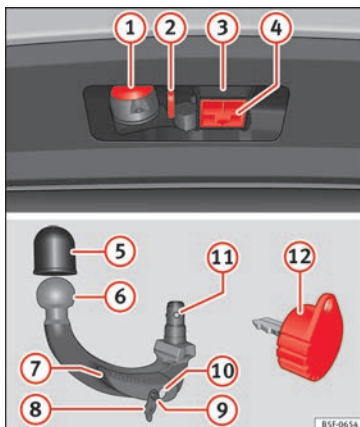

Fig. 232 Towing bracket device support / detachable ball joint / key.
Key to » Fig. 232
- Remove the hook housing cap **④** **»» Fig. 232** downwards.